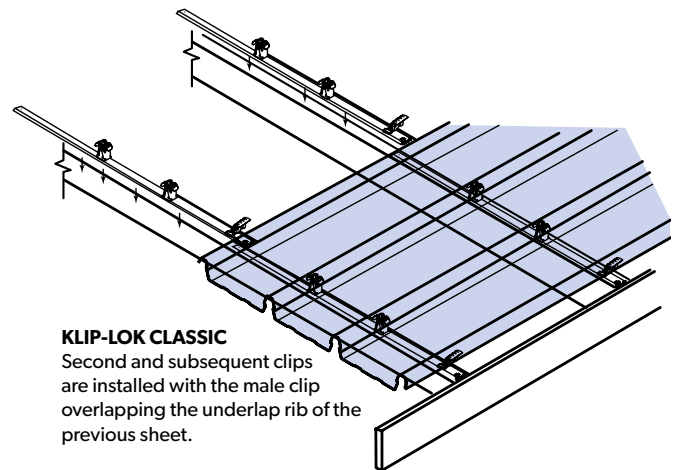

Figure 5
10. Fix each next row of clips one to each support by engaging the front of the clip assembly onto the underlap rib of the preceding sheet engaging the spur of the clip to the leading edge of the previous sheet. (Figures 5 & 6) Be sure the clip is at 90° to the edge of the sheet.